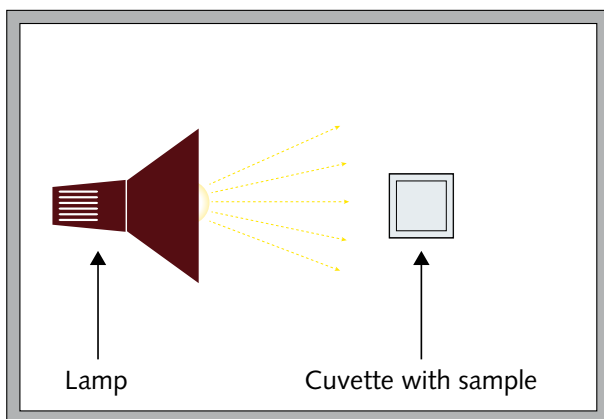

Figure 5: Schematic diagram of photolysis box.
6. Record the UV-Vis spectrum of solution D immediately. Photolyse solution D in the photolysis box provided over 15 min (see Figure 5 and consult supervisor if unsure) recording the UV-Vis spectra every 5 minutes. Print and attach the spectra to your answer book. Label this spectrum "Graph 3".
8. Accurately, photolyse solution E in the photolysis box provided (see Figure 5), recording the absorption at the optimum wavelength chosen at regular intervals over 10 minutes under question 12 on your answer sheet. Repeat this for solution F (to check the reproducibility of the experiment).